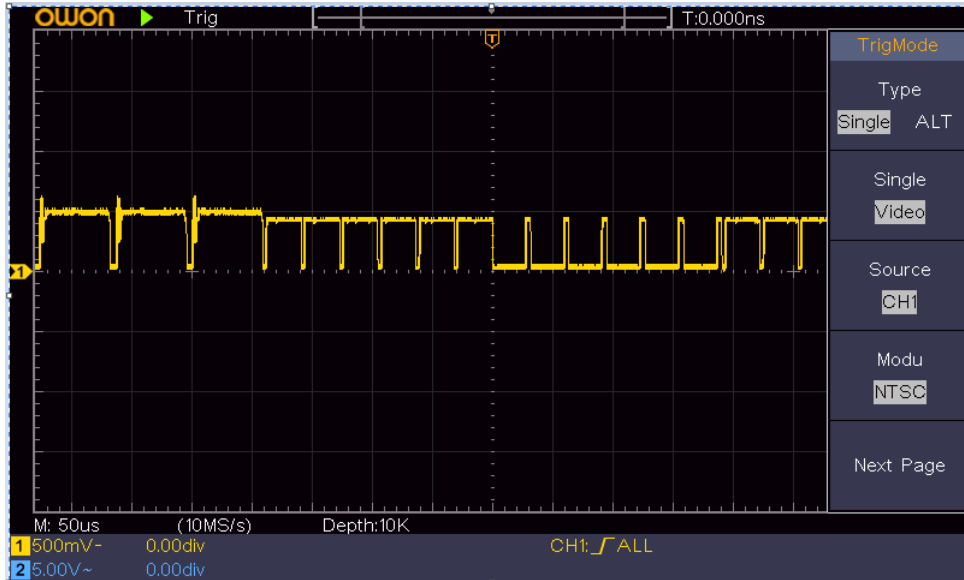

Figure 6-7 Waveform Captured from Video Field Trigger
- (5) In the right menu, select **Modu** as **NTSC**.
- (6) In the right menu, press **Next Page**, select **Sync** as **Field**.
- (7) Turn the **Vertical Scale**, **Vertical Position** and **Horizontal Scale** knobs to obtain a proper waveform display (see *Figure 6-7*).